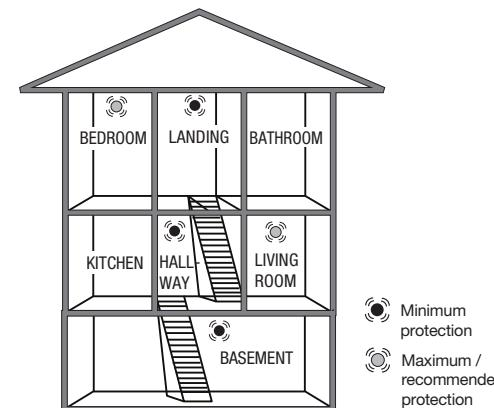

FIGURE 2. Multi-storey home
**Multi-storey home:** To achieve minimum protection, position the alarm in the stairwell (at ground level) and another alarm above the landing on the top floor, as well as an alarm on the ceiling in the basement at the foot of the stairs. This covers the basement level, but not crawl spaces and unfurnished attics. See the example in Figure 2.